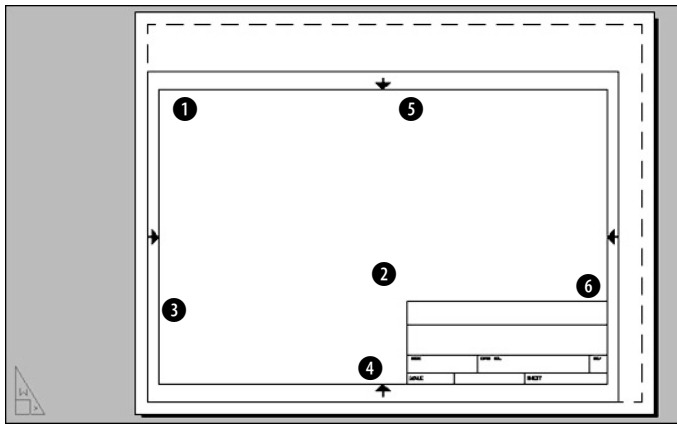

Figure 17-12: The title block inserted into paper space.
10. Choose Insert ⇨ Block to open the Insert dialog box. Click Browse. Choose ab17a-b1k.dwg from the CD-ROM and click Open. Uncheck any checked Specify On-Screen check boxes. Click OK to insert the title block, as shown in Figure 17-12.
12. Choose View ⇨ Viewports ⇨ 1 Viewport. (Turn OSNAP off if it's on.) At the Specify corner of viewport or [ON/OFF/Fit/Shadeplot/Lock/Object/Polygonal/Restore/2/3/4] <Fit>: prompt, choose ❶ in Figure 17-12. (If you are using AutoCAD LT, your prompt will look slightly different.) At the Specify opposite corner: prompt, choose ❷.
13. Click the right mouse button and then choose Repeat 1 Viewport. At the prompt, choose ❸ in Figure 17-12. At the next prompt, choose ❹ in Figure 17-12. Again, repeat the command and choose ❺ and ❻ in Figure 17-12. You now see the drawing in the three viewports.